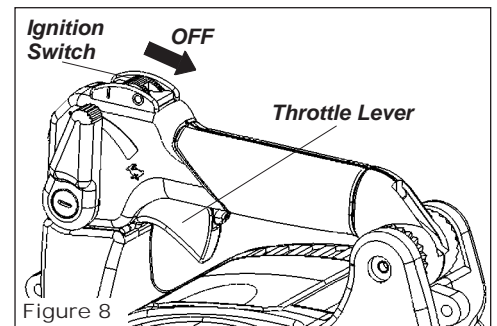

Figure 8
- Slide the ignition switch towards the rear to "O" (OFF). See Figure 8.